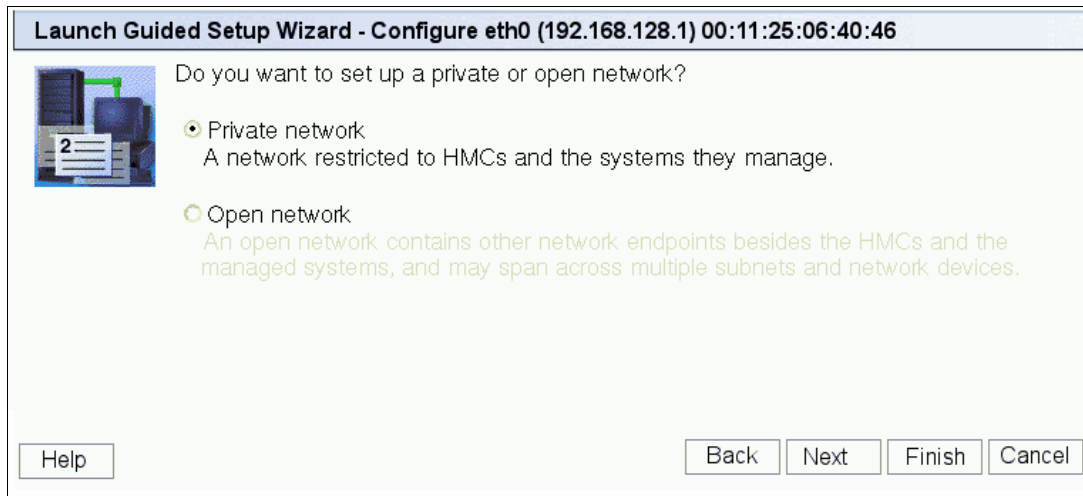

Figure 3-8 Configure eth0 Private Network
9. The Launch Guided Setup Wizard - Configure eth0 Private Network panel is displayed, as shown in Figure 3-8. As mentioned previously, we set the LAN adapter eth0 as a private network to connect to our managed systems.